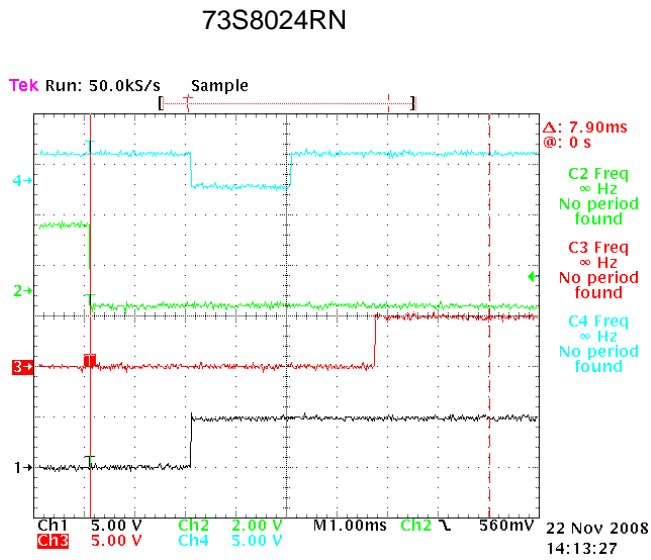
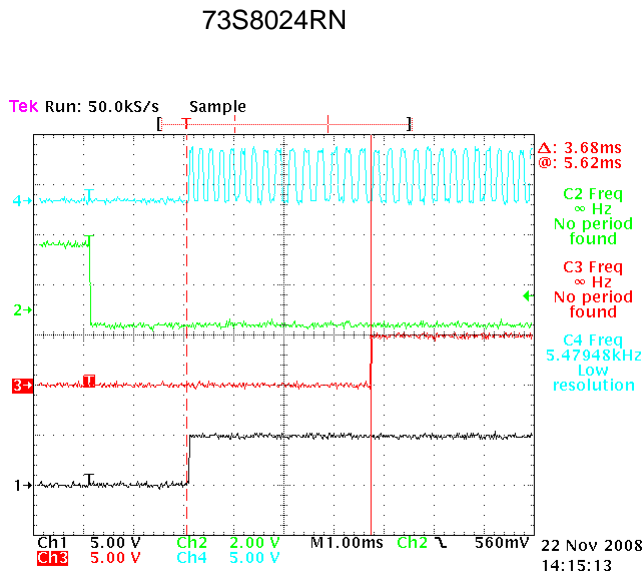

Figure 22: 73S8024RN, Case 4, Legend A
Figure 24: 73S8024RN, Case 4, legend B.
- Case 4: RSTIN is high before T0, goes low after T1 and goes high sometime later. See Figure 22 through Figure 24.